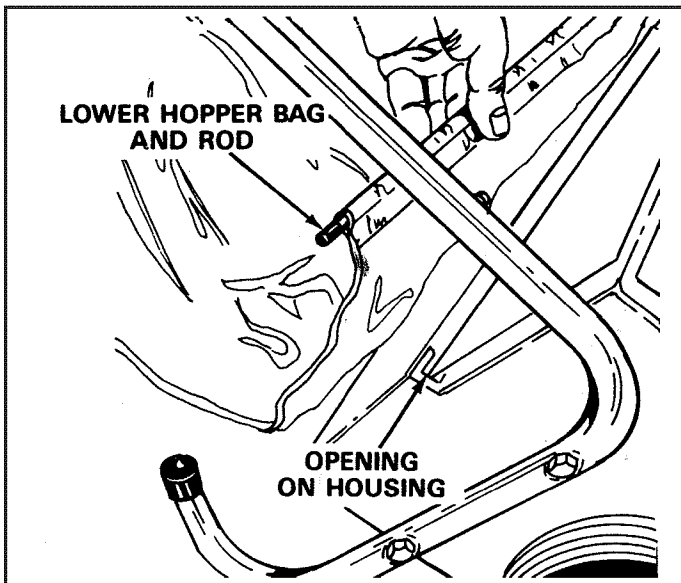

FIGURE 8
10. Place the lower hopper bag and bag rod into the opening on the sweeper housing. See figure 8.